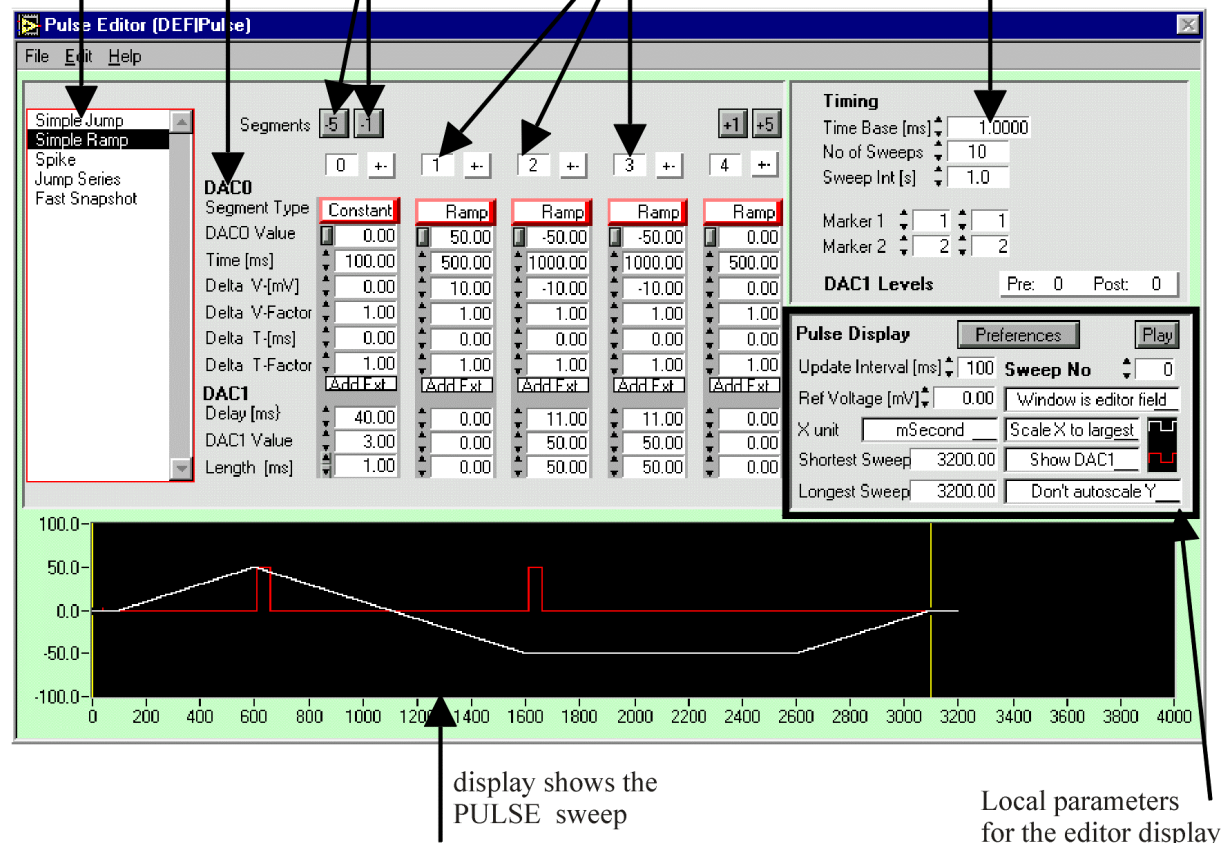

Figure 15: CW Pulse Editor after adding a segment in the example above
As in CHARTS, segments are the smallest (temporal) components of PULSES. The parameter settings of five pulses are shown in the module window (see Figure 15). The list at the left side contains the available PULSES and after selection of a PULSE the parameter settings are updated immediately. In addition, CellWorks reads these parameters and displays the corresponding traces in the graph, which has various display and scaling features. For DAC0 seven parameters can be set for each segment: Segment Type (Constant or Ramp), value, time and four parameters to define increments for voltage and/or time. Furthermore, all voltages can be set in relation to a “Reference Voltage” to simplify pulse protocols for different holding potentials, e.g. the user can define voltage steps (defined as step amplitude) for an I/V curve in relation to a certain holding (“Reference”) potential. This “Reference” potential is for display only. The physical “Reference” voltage output at DAC0 has to be set in the “Manual” mode subeditor in the Execution module. For DAC1 you only can set delay, value and length. DAC1 is preferable for generating trigger pulses.
- ❑ Click the (+-) button at the segment 2. A popup menu appears. Select “Duplicate” from the popup menu. A further segment is generated with identical parameters. The Pulse Editor display should now show the pulse as shown in Figure 15.